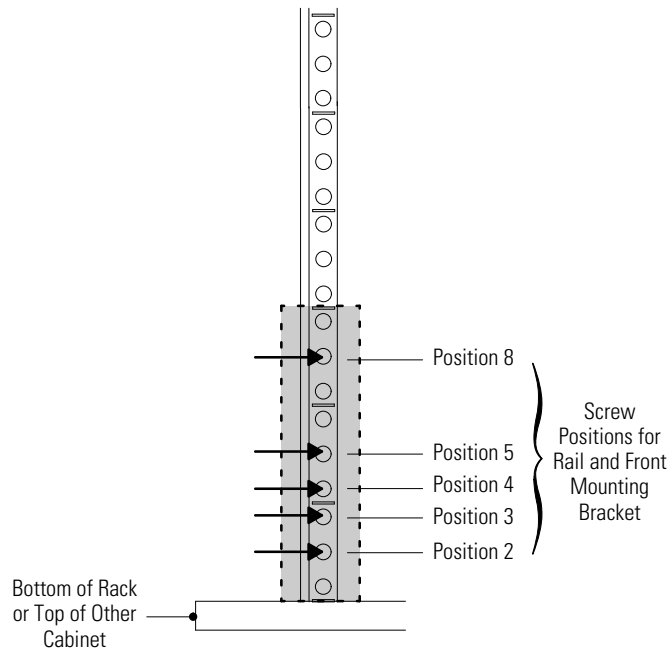
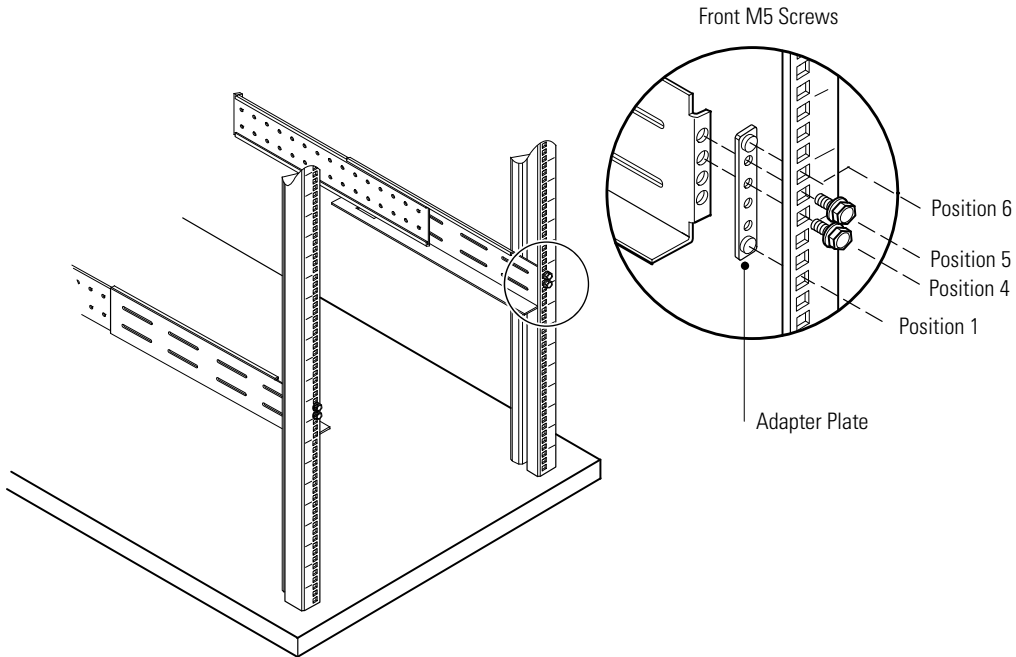

Figure 1. Front Rail Screw Positions for the EBM
Figure 2. Securing the Front Rail
1. Select the proper holes in the rack for positioning the EBM in the rack (see Figure 1).
- Using two M5 machine screws and an adapter plate, attach the rail to the front of the rack (see Figure 1 and Figure 2).